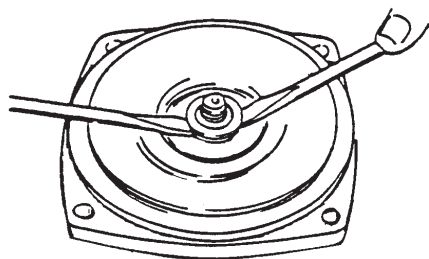

Figure 36A - Remove Mechanical Seal
- b. Using two (2) screwdrivers, pry the ceramic seal and rubber gasket from the recess of the mounting ring (See Figure 36A).